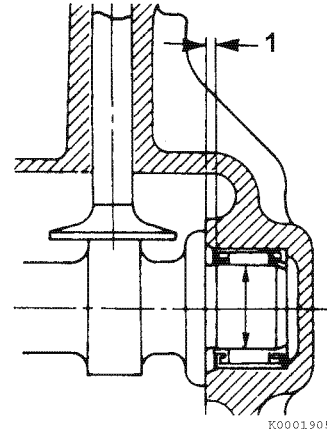

Figure 6-61
1. Measure the installed depth (1, **Figure 6-61**) of the camshaft needle bearing on the cylinder block side. Record the measurement.
3. Press the new needle bearing to a depth of 0.055 - 0.059 in. (1.4 - 1.5 mm) (1, **Figure 6-61**).